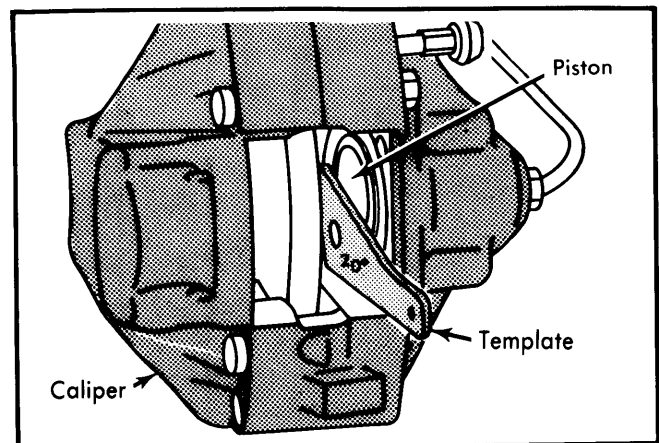

Fig. 1 Piston Alignment for Rear Brake Calipers
2) On rear calipers, ensure machined position of piston face makes a 20° angle with caliper wall. See Fig. 1. (Rotate piston with tool 341050 if necessary). On all calipers except 320i front calipers, install disc pads, shims (if required), cross spring and retaining pins. After installation, depress brake pedal several times to seat pads.